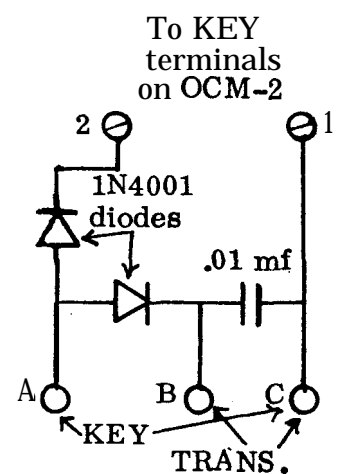

Fig. 2. Adapter to use OCM-2 as a CW monitor.
Model OCM-2 is a solid-state Code Practice Oscillator. With the aid of an adapter, described in Fig. 2 below, it may also be used to monitor a CW transmitter that employs grid-bias keying.
- (1) Obtain the parts shown in Fig. 2. They can be purchased at any electronics parts store. Hook them up as shown, using any small board or terminal strip.
- (2) Connect terminals 1 and 2 of the CW monitor adapter to terminals 1 and 2 on the OCM-2 terminal strip. Connect the telegraph key to terminals A and C of adapter. Run wires from the key terminals of the transmitter to terminals B and C of the adapter. Terminal C should be the common terminal.
- (3) The unit is now ready for use. Adjust the tone and volume control as desired. When the key is closed, the monitor will sound. Operation of the transmitter or transceiver is unchanged.